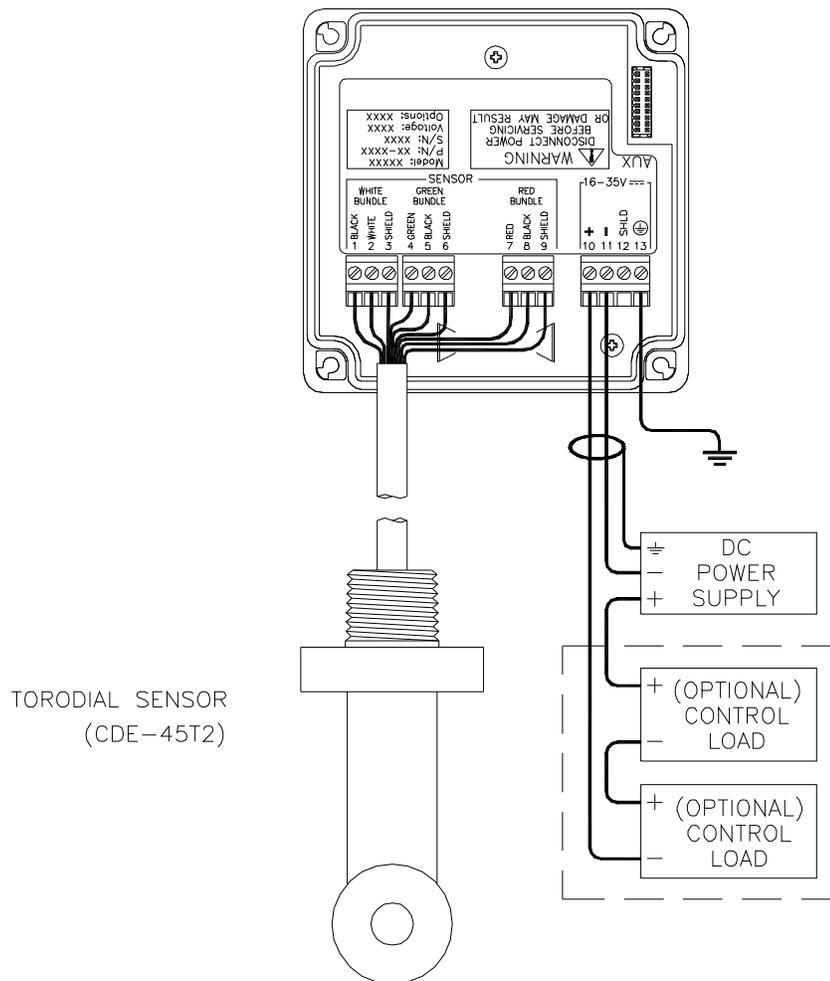

Figure 4-1 Loop-Power Connection, CDTX-45T Transmitter
1. Use wiring practices that conform to all national, state and local electrical codes. For proper safety as well as stable measuring performance, it is important that the earth ground connection be made to a solid ground point (Figure 4-1). The AC power supply contains a single 100Ma (115V) or 50mA (230V) slo-blo fuse. The fuse **F1** is located adjacent to **TB5** and is easily replaceable.
In the two-wire configuration, a separate DC power supply must be used to power the instrument. The exact connection of this power supply is dependent on the control system into which the instrument will connect. See Figure 4-1 for further details. Any twisted pair shielded cable can be used for connection of the instrument to the power supply. Route signal cable away from AC power lines, adjustable frequency drives, motors, or other noisy electrical signal lines. Do not run sensor or signal cables in conduit that contains AC power lines or motor leads.
Sensor connections are made in accordance with Figure 4-1. The sensor cable can be routed into the enclosure through one of cord-grips supplied with the unit. Routing sensor wiring through conduit is only recommended if a junction box is to be used. Some loose cable is needed near the installation point so that the sensor can be inserted and removed easily from the flowcell.